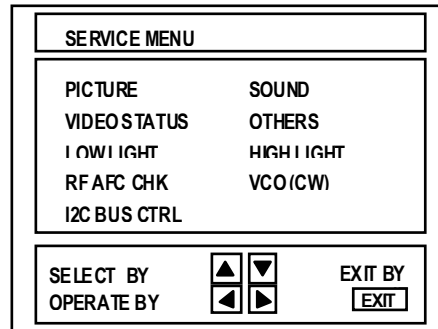

Fig.1
(7) SERVICE MENU setting	Verify what to set in the SERVICE MENU, and set whatever is necessary. (Fig.1) refer to the SERVICE ADJUSTMENT for setting.